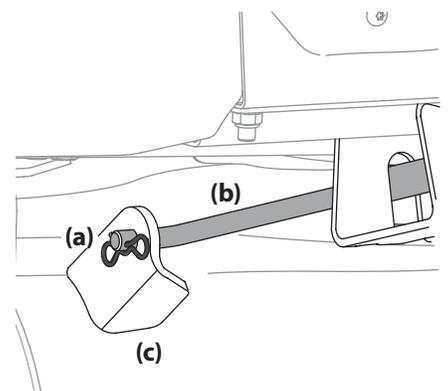

Figure 4-13
- Pull the cotter pin (a) out of the front deck lift rod (b) securing it to the deck. See Figure 4-13. Slide the deck lift rod out of the front hanger bracket (c).
6. Reinstall the front deck lift rod and secure in place with the cotter pin. Refer to Figure 4-13.